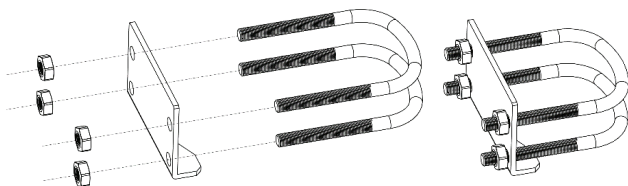

Figure 7
1. Insert the U-Bolts into the sensor array mounting bracket and thread the nuts (Figure 7). Test fit the assembly on your mounting pole and adjust to loosely fit your mounting pole.
The data is automatically passed from the Weather Hub module to AmbientWeather.net based on the channel number (Figure 7).